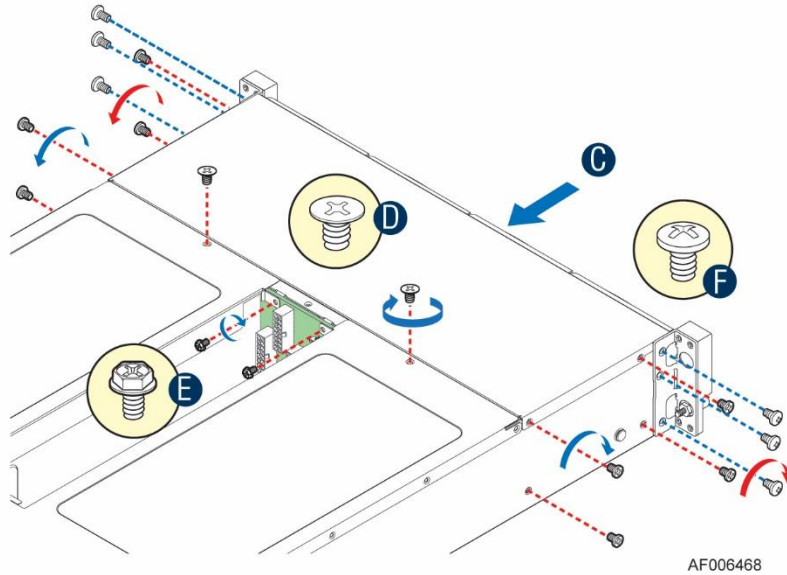

Figure 55. Installing the drive cage to the chassis
2. Install the drive cage to the chassis (D) and fix the drive cage with the screws (E, F, and G) as pictured in Figure 55.